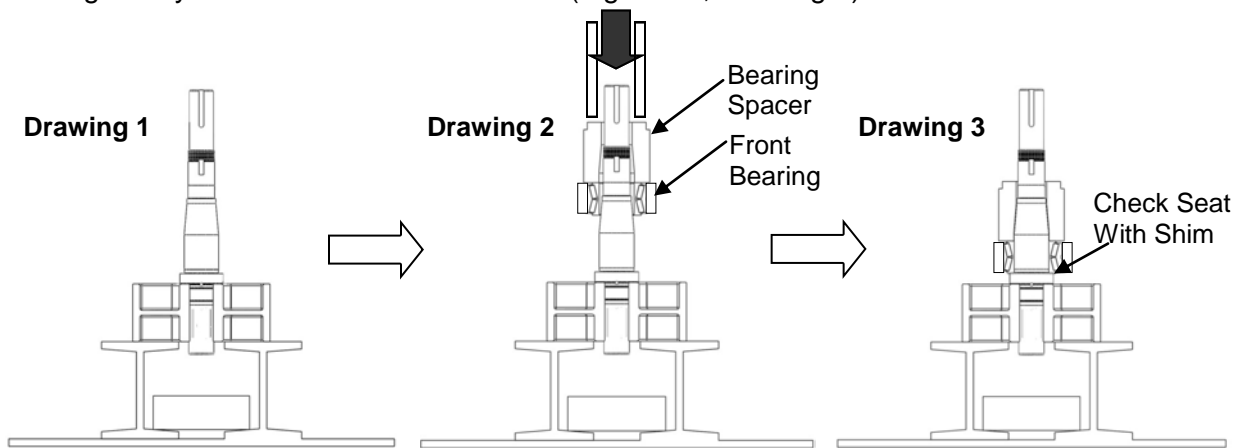

Figure 36: Pressing Front Bearing onto Shaft
1) Clean all reusable parts prior to reassemble. Apply a light coat of lubricant on the shaft area where the front bearing will sit. Position the shaft upright in the press with the rotor end facing down (Figure 36, Drawing 1). Open the new front bearing assembly and be sure not to interchange any parts. All bearings are manufactured as sets and assembled to have a precise overall length. Place the front bearing over the shaft along with the bearing spacer (Figure 36, Drawing 2). Make sure the bearing and spacer are aligned before pressing them on. Reference Table 5 for the required force (in tons) needed to press the bearings on to the shafts. Using a sleeve that rests on the bearing spacer and rides over the shaft, press the bearing on until it seats against the shaft shoulder. A shim can be used to ensure that the bearing is fully rested on the shaft shoulder (Figure 36, Drawing 3).